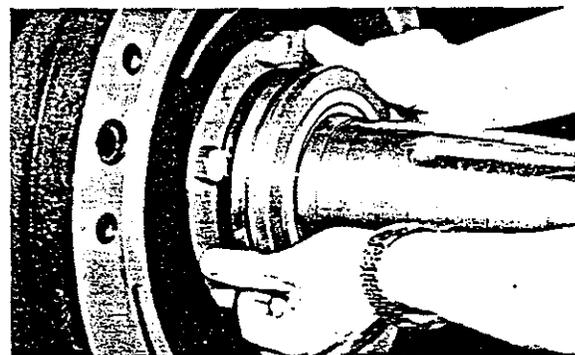

Fig. 72 Removing seal collar
- b) When the locknuts have been removed, pull out the shaft seal collar (9) through the groove on the outer circumference as shown in Fig. 72. Never risk gouging it by putting a screwdriver between the seal collar and the thrust bearing (13) even when it will not part easily.